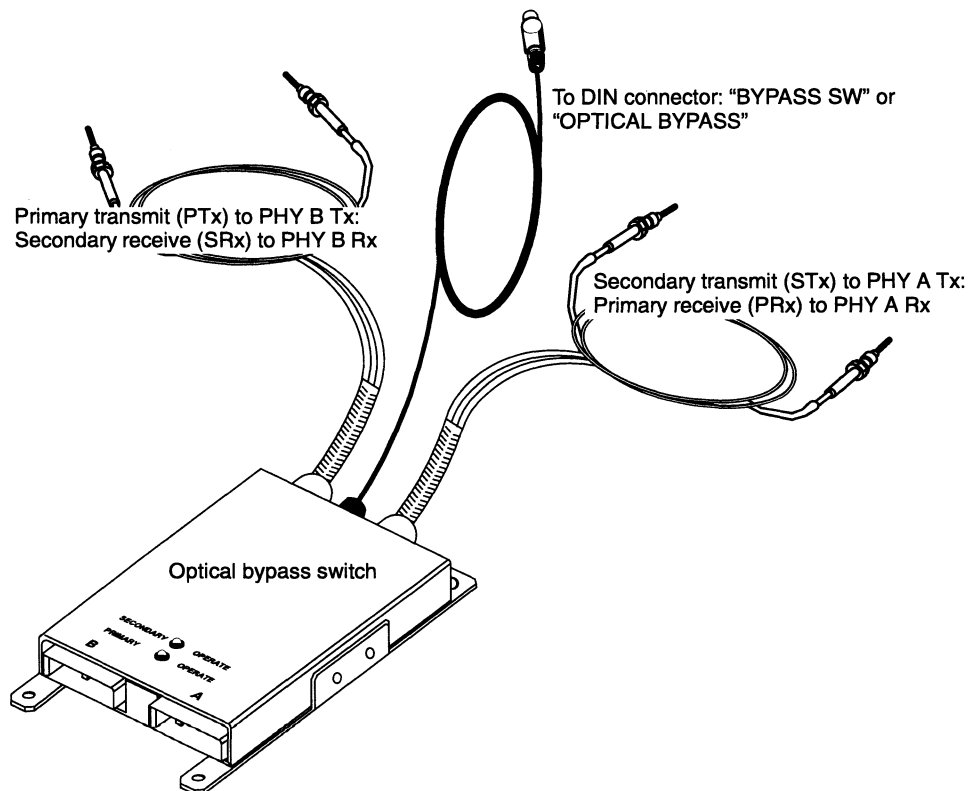

Figure 4-50 Connecting an Optical Bypass Switch to a VFC
2. Remove the plastic dust caps, then plug the bayonet connectors on the optical bypass switch cables into the Tx and Rx jacks for PHY A and PHY B on the VFC board, as indicated in Figure 4-50. (Refer to Figure 4-48 for an illustration of an ST bayonet connection to the VFC board.)